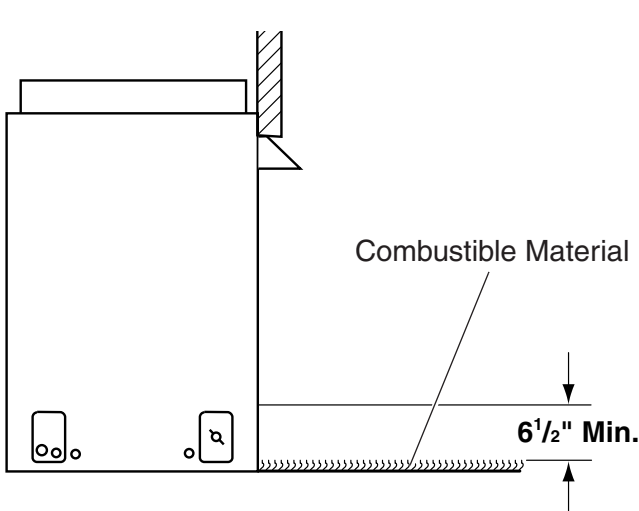

Figure 6 - Floor Clearance above Combustible Flooring Material
6. **Floor clearance** — This firebox hearth must be installed at least 6½" above any combustible flooring material, such as carpeting or asphalt tile, which is closer than 14" to the base of the firebox. Refer to *Figure 6*.